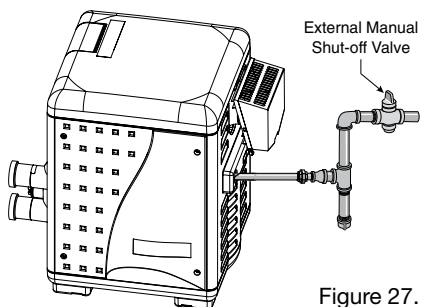

Figure 27.
5. Turn off the outside external manual shut-off gas valve, see Figure 27.
6. Wait five (5) minutes to clear out any gas. If you then smell gas, STOP! Follow “B” in the “Before Start-up” instructions (page 34). If you don’t smell gas, go to the next step.
7. Turn on the outside external manual shut-off gas valve, see Figure 27.
3. Turn off the outside external manual shut-off gas valve, see Figure 27.